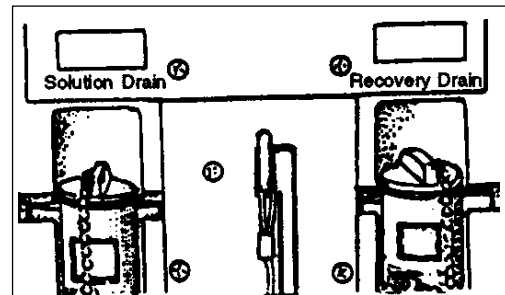
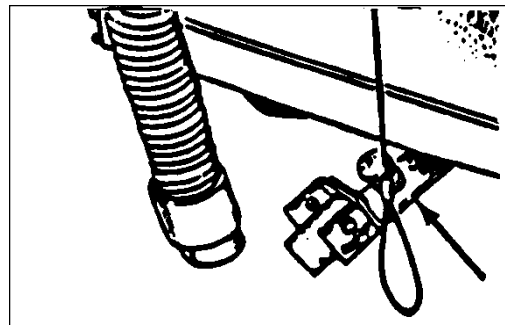

Figure 15
Figure 16
1. Attach the squeegee cable to the squeegee lift arm (Figure 15) and squeegee bracket (Figure 16).
4. Slide the squeegee bracket either right or left all the way under the machine skirt. See Figure 16.